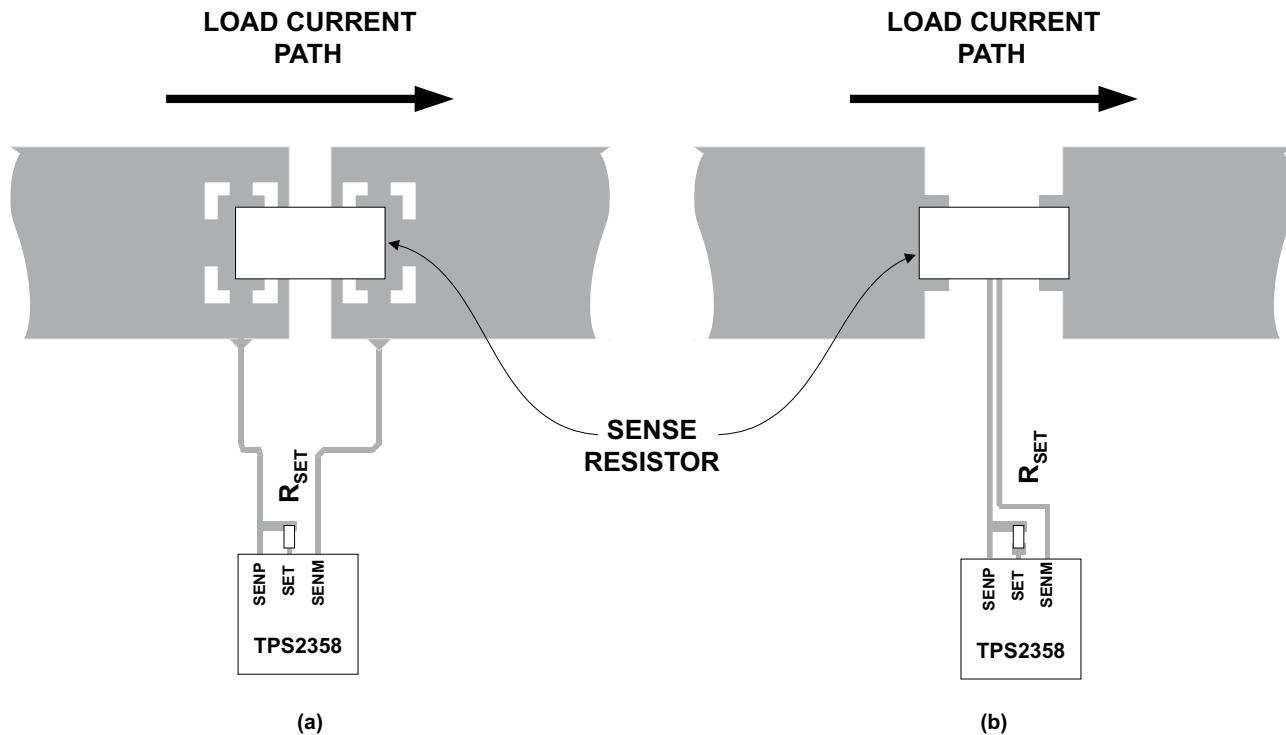

Figure 26. Recommended R_{SENSE} Layout
2. SENM_x and SENP_x runs must be short and run side by side to maximize common mode rejection. Kelvin connections should be used at the points of contact with R_{SENSE} (Figure 26).